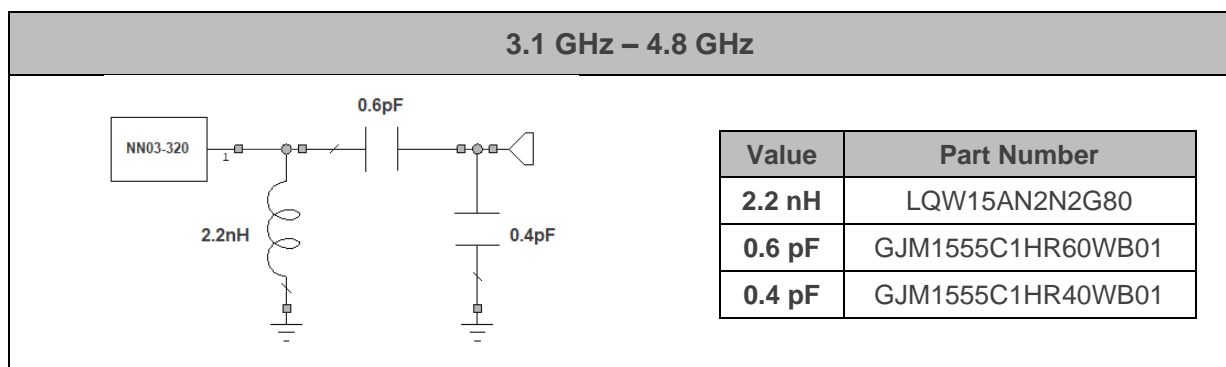
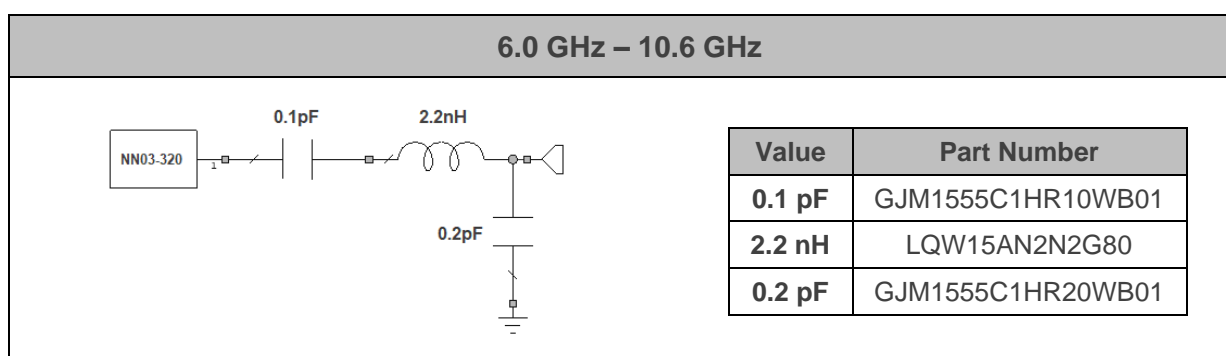

Figure 12 – Matching network implemented in the Evaluation Board (**Figure 11**) for covering the low frequency region from 3.1GHz to 4.8GHz.
Figure 13 – Matching network implemented in the Evaluation Board (**Figure 11**) covering the high frequency region from 6.0GHz to 10.6GHz.
The antenna performance is always conditioned by its operating environment. Different devices with different printed circuit board sizes, components nearby the antenna, LCD's, batteries, covers, connectors, etc. may need a different matching network. Accordingly, it is highly recommended placing pads compatible with 0402 and 0603 SMD components for a matching network as close as possible to the feeding point of the antenna element in the ground plane area, not in the clearance area. This provides a degree of freedom to tune the DUO mXTEND[™] antenna booster once the design is finished and taking into account all elements of the system (batteries, displays, covers, etc.). To ensure optimal results, the use of high-quality factor (Q) and tight tolerance components is highly recommended (e.g. Murata components (Figure 12)).
Figure 14 – VSWR and total efficiency for the UWB LFR (3.1GHz – 4.8GHz) and for the UWB HFR (6.0GHz – 10.6GHz) from the Evaluation Board (**Figure 11**) with the matching networks gathered in Figure 12 (LFR UWB) and Figure 13 (HFR UWB), respectively. Simulated results obtained with CST.
Table 7 – Antenna gain and total efficiency from the Evaluation Board (Figure 11) for 3.1GHz – 4.8GHz with the matching network of Figure 12. Simulated results obtained with CST.